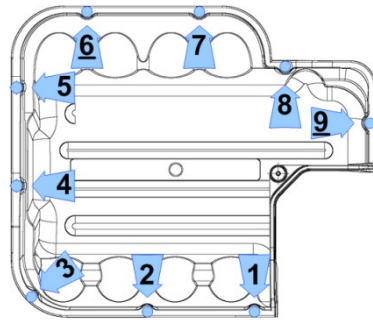

Figure 29 – Top Cover Torque Sequence
30. Place the Top Cover and secure it with the nine (9) M5x15 screws according to the following sequence. Follow the sequence twice. The first time, only fasten screws half way down to allow for adjustments. Torque to 13 in.lb. on the second pass. Refer to Figure 29 (Top Cover Torque Sequence).